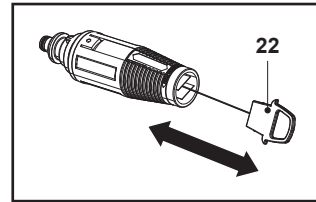

Fig. 18
2. Remove any dirt deposits from the nozzle hole using a needle (22) (Fig. 18).